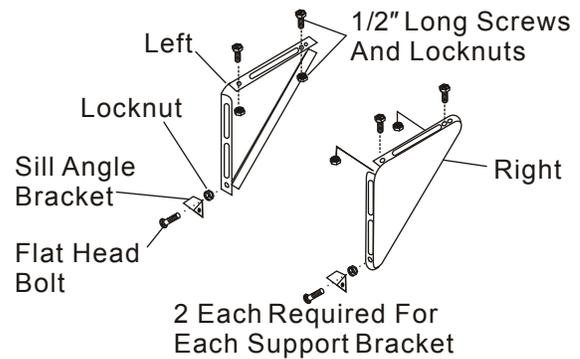

Fig.15B
2. Assemble sill angle bracket to support brackets at the marked position. (See Fig. 15B.) Hand tighten, but allow for any changes later.